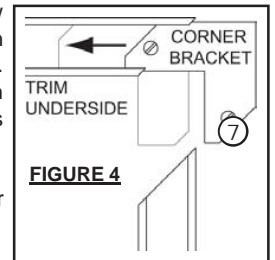

FIGURE 4
- The three pieces of trim are assembled in the same manner as a picture frame. Place the corner brackets (with screw loosened) into the trim sections. Tighten the screw spreading the two pieces apart. Attach the adjoining section. Repeat with the opposite side. Tighten all screws firmly. (FIGURE 4)